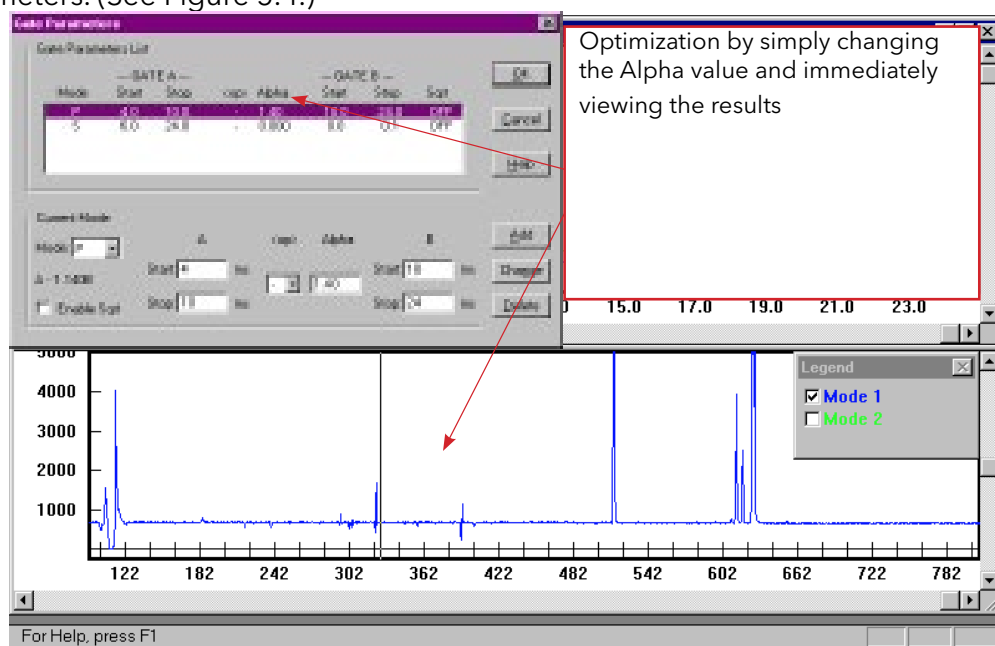

Figure 5.4. Post-Run Optimization of Gate Alpha Values
3. Click **OK**. The chromatogram will be recalculated and displayed using the new gate parameters. (See Figure 5.4.)